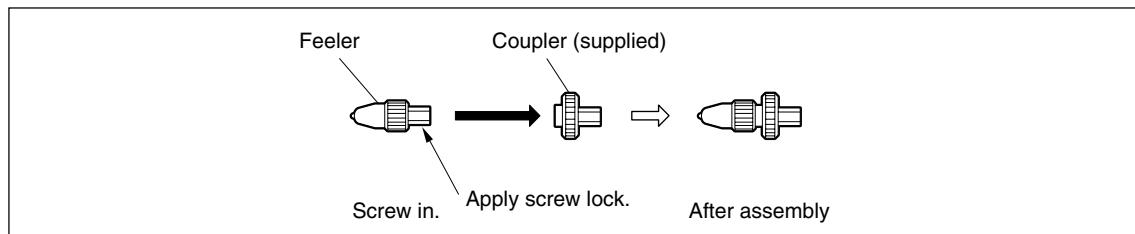

Fig. 3 Assembly of the feeler
1. Remove the feeler from the probe, and screw it onto the supplied coupler (Fig. 3).